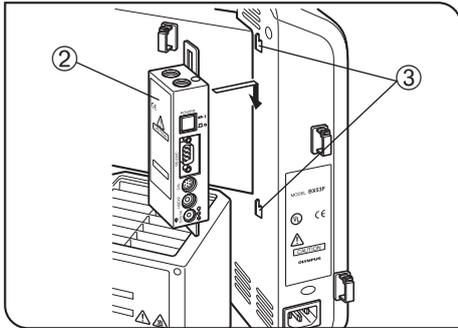

Fig. 2
Hang the U-CBS control box ② on the hangers ③ on the rear of the microscope frame (Fig. 2).